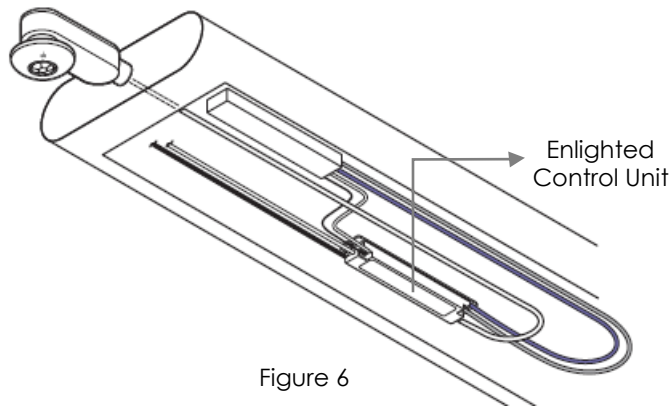
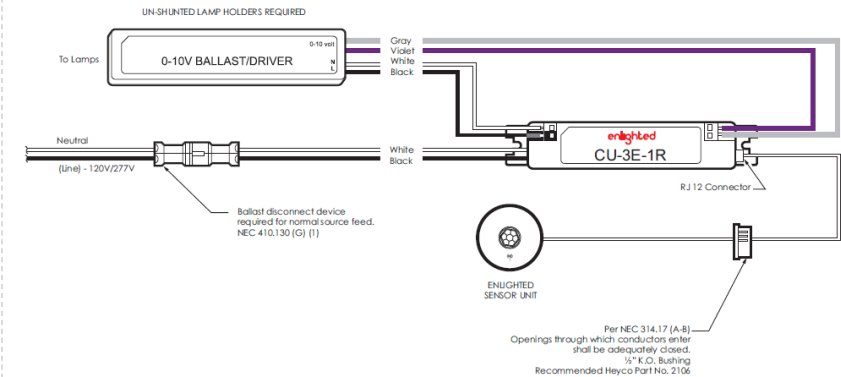

Figure 6
Figure 7
Step 2: Mount the Control Unit (CU) in a UL approved enclosure. Refer to the *Control Unit Installation Guide*. See Figure 7 for detailed wiring connections from the CU.
Step 7: Pull the Ruggedized sensor cable through the chase nipple into the fixture and connect it to the Control Unit. See Figure 6. For wiring connections to the CU, see Figure 7.